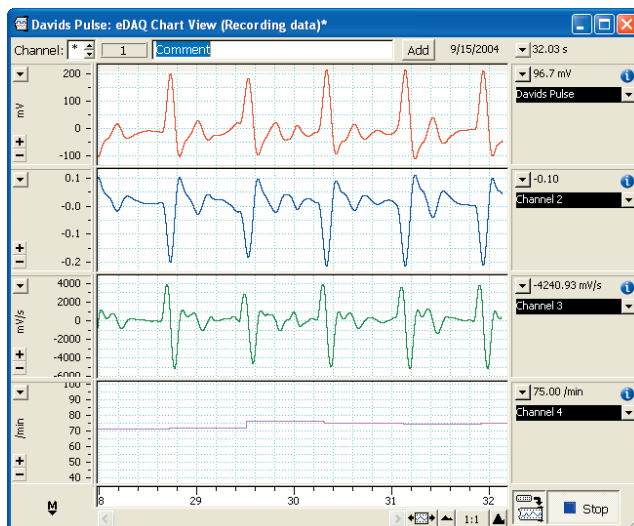

Figure 27. Heart rate monitored on the fourth channel.
4. Click OK and start recording. The heart rate is monitored on the fourth channel whilst recording (Figure 27).